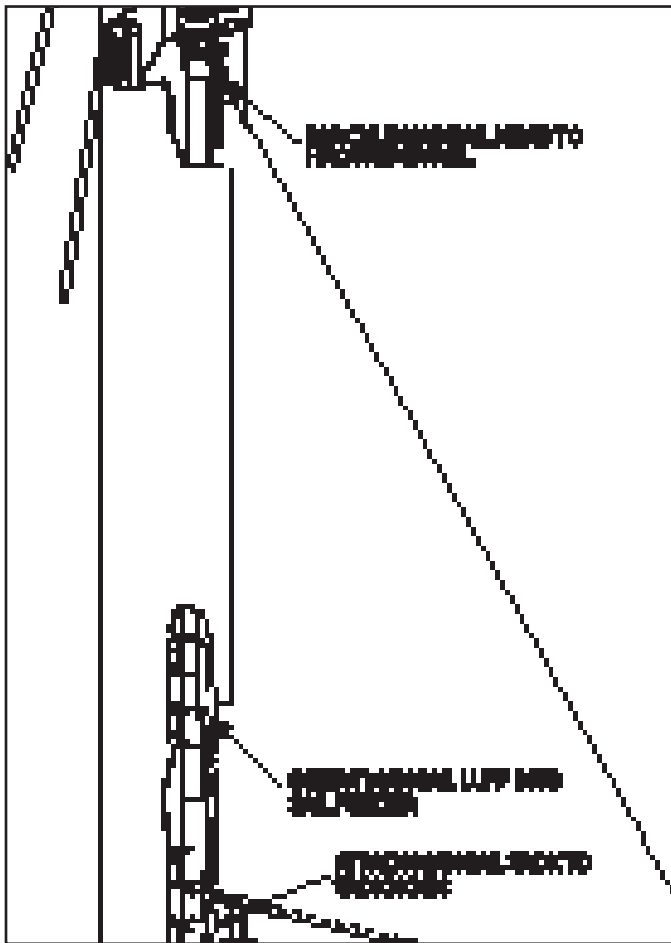

Figure 12.6
3. Feed the head of the sail through the mast slot and into the main foil (Fig. 12.6).
4. Lower the main halyard and attach the halyard shackle to the strap sewn onto the mainsail head (Fig. 12.6).
6. Back the remaining luff down the extrusion from the sail entry location until it can be connected to the tack hook through the lower inspection port (Fig. 12.6).